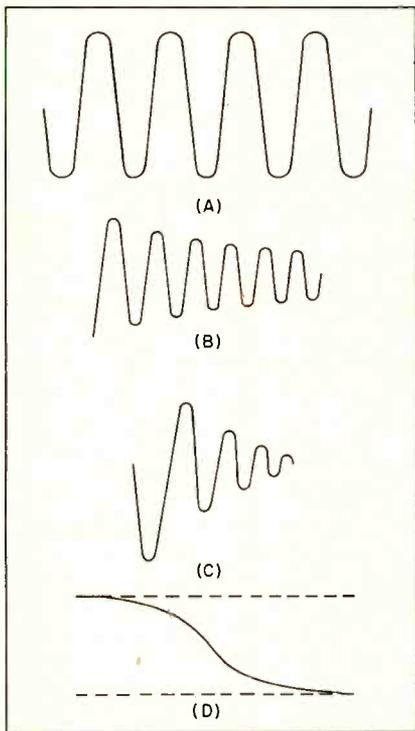

Fig. 3—Waveform of a ringing circuit when the latter is (A) undamped, (B) slightly damped, (C) heavily damped, (D) over-damped.
designed to operate only when a pulse from the horizontal sweep section arrives; the pulse is so timed that the amplifier functions only when the burst is present at its input (see Fig. 3).
Fig. 3—How the keyed burst separator operates. Dotted line represents the d-c bias; note that this bias extends well beyond cutoff. The solid-line waveform is the keying pulse; it combines with the d-c bias. Note that the sum of the d-c bias voltage and the keying pulse does not extend beyond cutoff. Between-station noise is amplified during keying time, causing "confetti" to be produced (A). When